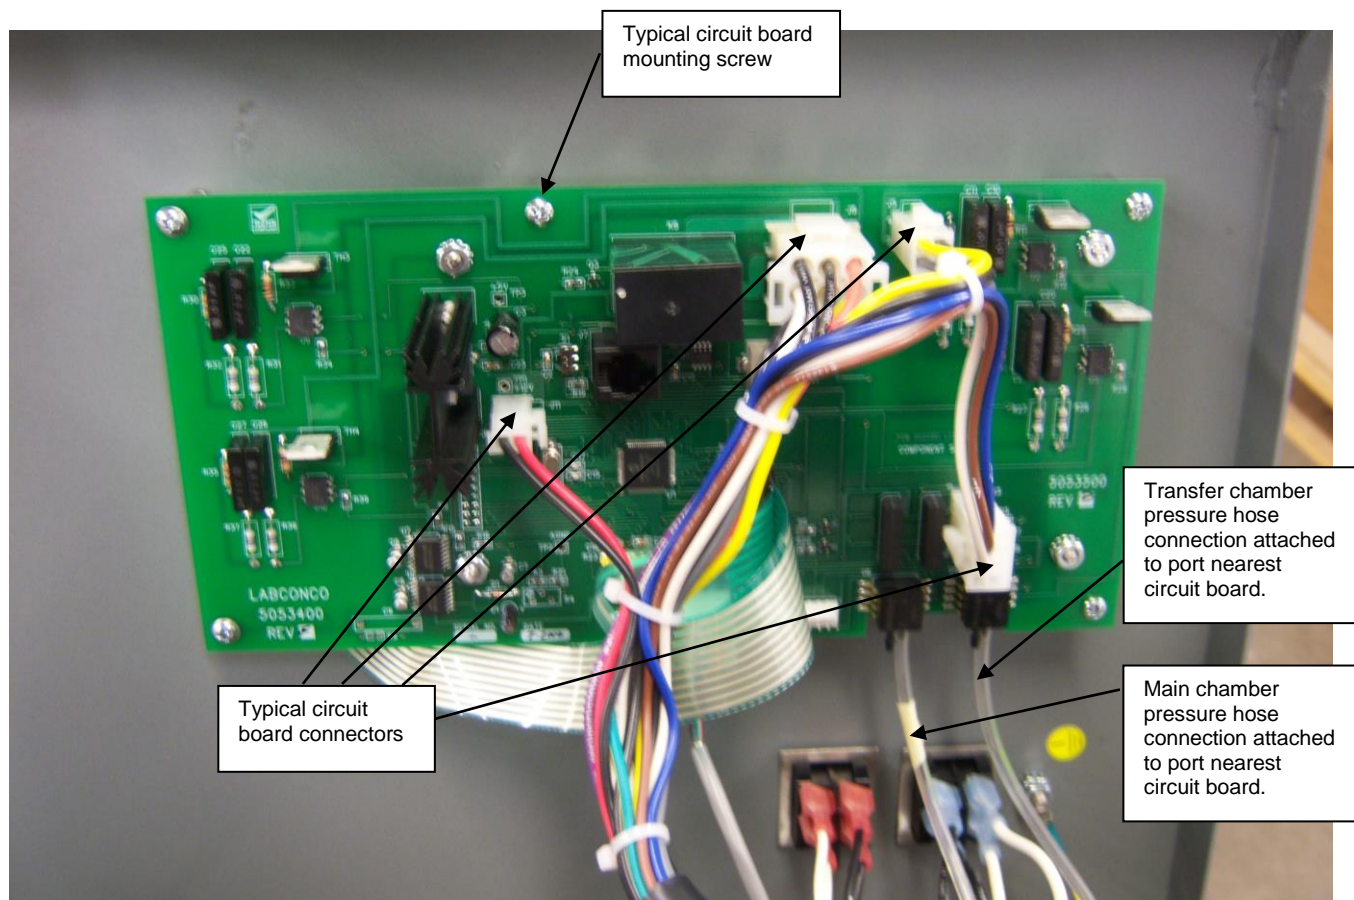

Figure 6-2
1. Disconnect the power. Refer to Figure 6-2. Check with your Safety Officer for contaminated hoses and seal the ends with tape.
4. Replace the pressure hoses as shown in Figure 6-2.